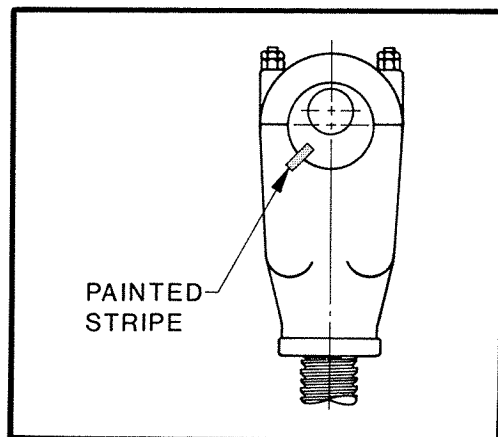

FIGURE 59
2. Start the machine and run the ram to the bottom of the stroke. A broad red stripe painted on the eccentric and connecting rod, when lined up, indicates this position. See Figure 59. Turn OFF the main drive motor and lock the palm button OPERATOR STATION switch in the "OFF" position. Let the flywheel come to a complete stop.